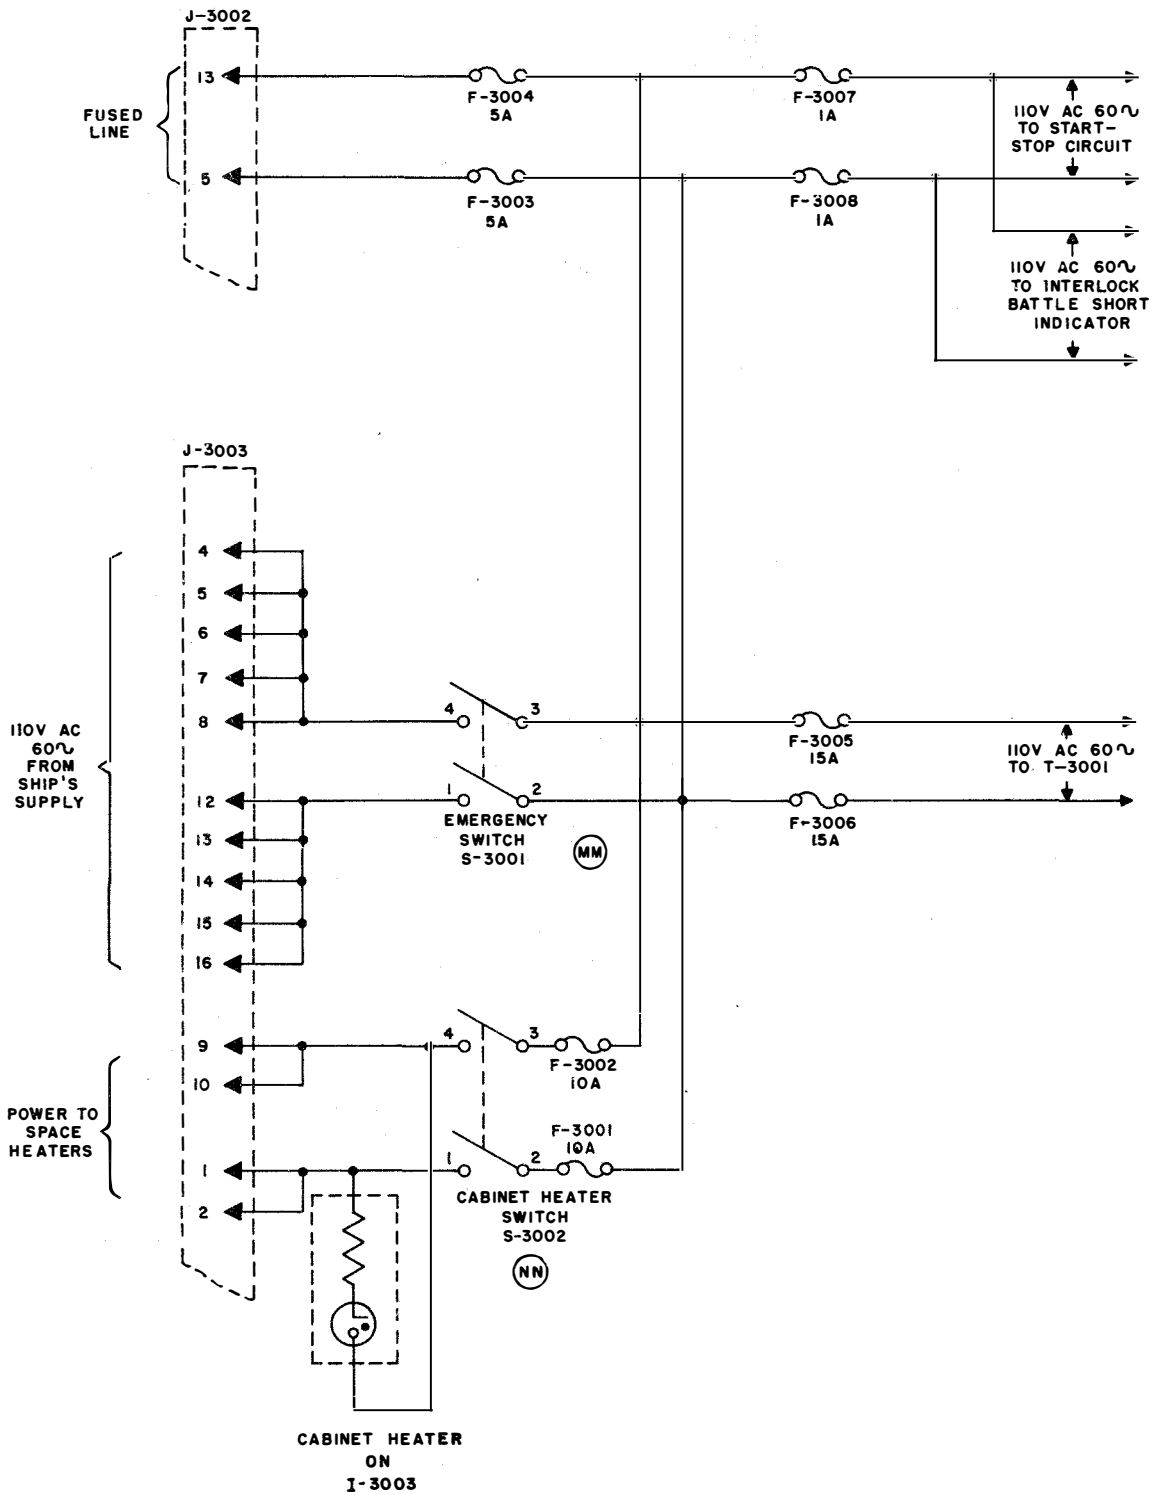

Figure 2-55. Input Circuit of LVPS, Simplified Schematic
b. INPUT CIRCUIT.—The input circuit of the LVPS (figure 2-55) receives 110-volt a-c, 60-cycle, single-phase power through receptacle J-3003, where five sets of contacts in parallel are used to insure adequate current-carrying capacity. EMERGENCY SWITCH ⓓ S-3001 controls all power to the LVPS. When switch S-3001 is closed, power is applied through fuses F-3007 and F-3008 to the start-stop circuit and through fuses F-3005 and F-3006 to the main power transformer. Power is also applied through fuses F-3001 and F-3002 and CABINET HEATER switch ⓓ S-3002 to the space heaters in the mounting, the presence of voltage across the space heaters being indicated by CABINET HEATER indicator light I-3003. (In an AN/SRT-16 installation, the heaters of the two transmitter groups are individually energized by the CABINET HEATER switches in each group.) In addition, a fused 100-volt a-c, 60-cycle, single-phase line, through fuses F-3003 and F-3004, is supplied.